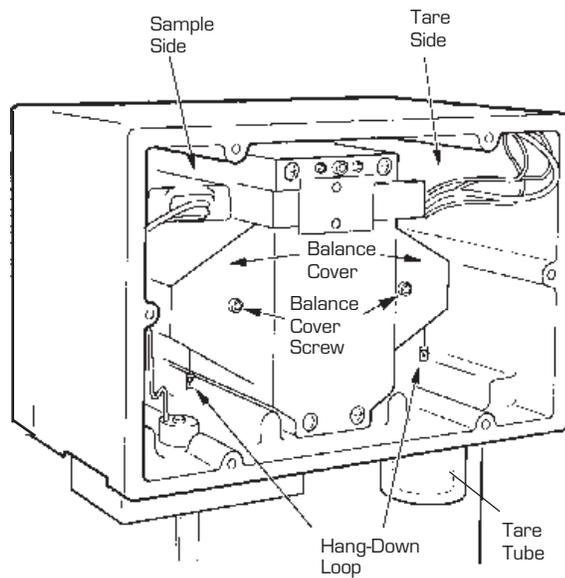

Figure 2.12
3. Loosen and remove the thumbscrew holding the balance cover on the sample (left) side of the balance mechanism (Figure 2.12), and take off the cover.